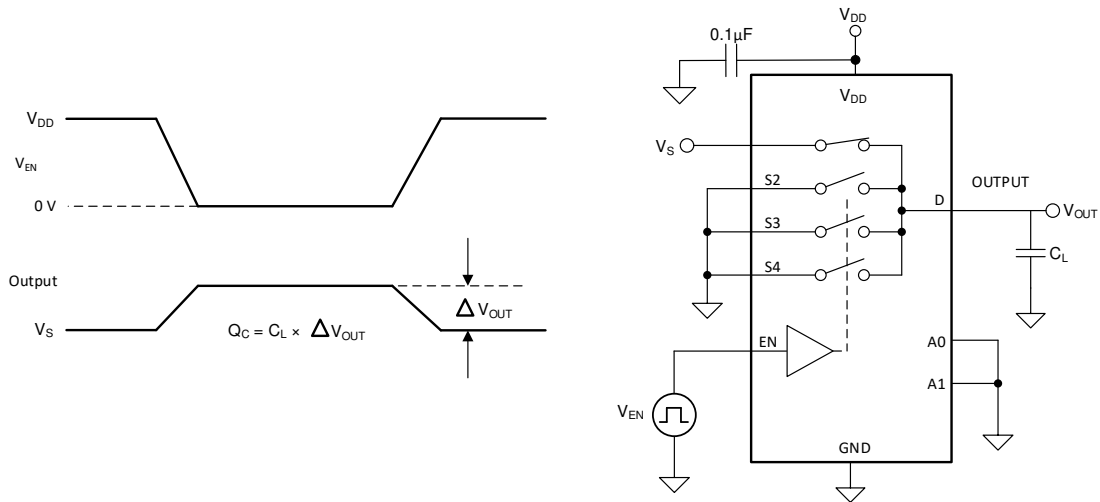

图 24. Charge-Injection Measurement Setup
The TMUX1104 has a transmission-gate topology. Any mismatch in capacitance between the NMOS and PMOS transistors results in a charge injected into the drain or source during the falling or rising edge of the gate signal. The amount of charge injected into the source or drain of the device is known as charge injection, and is denoted by the symbol Q_C . 图 24 shows the setup used to measure charge injection from source (Sx) to drain (D).